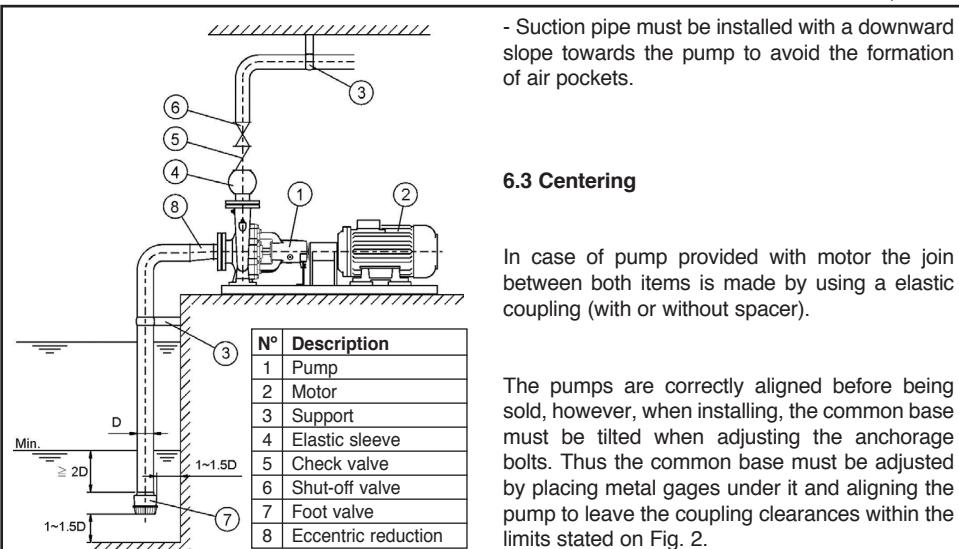

Fig.1
(5) Installations with suction lift (see Fig. 1):